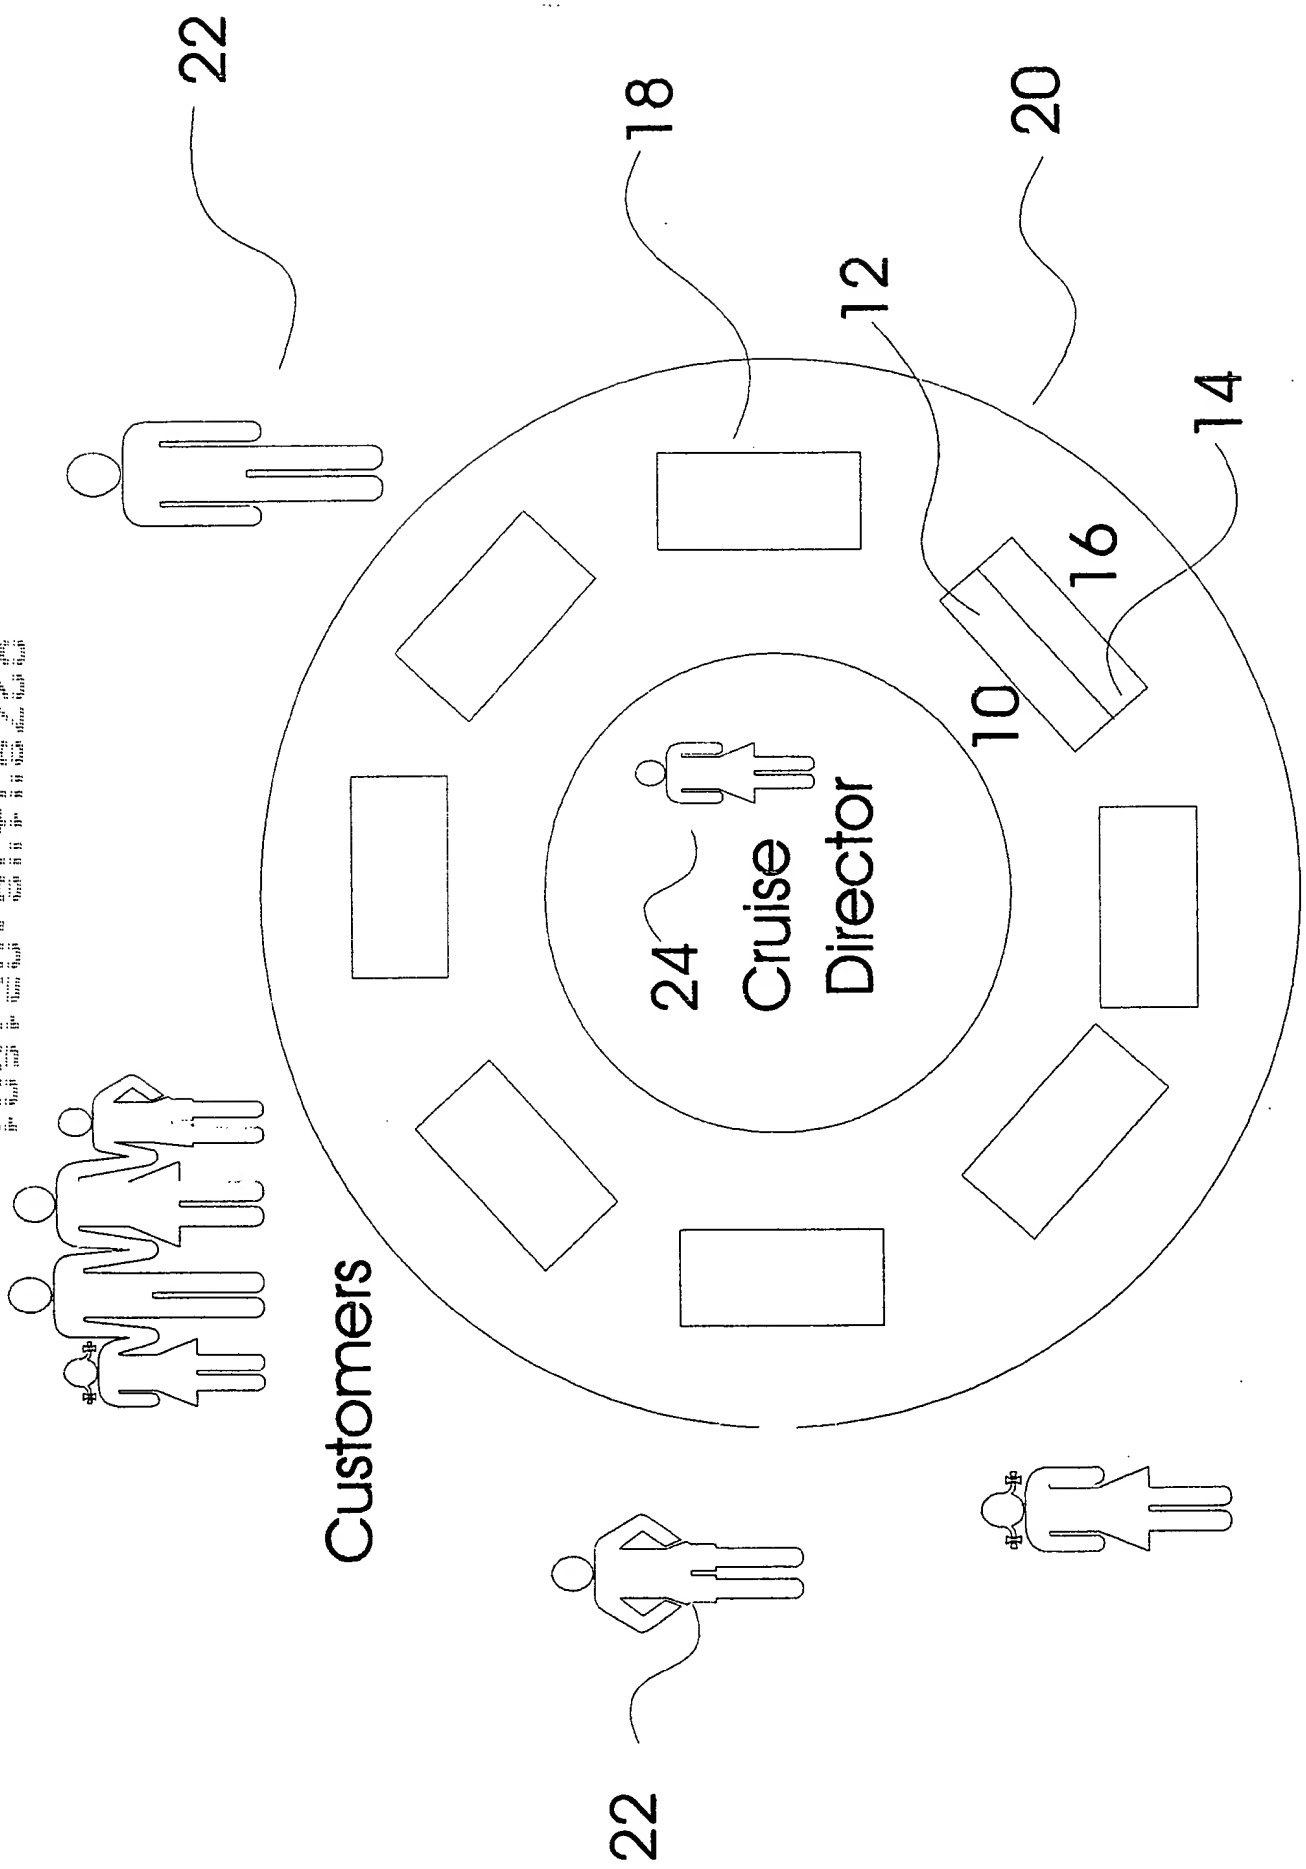

Fig. 3
FIG. 3 is a schematic diagram of a system for managing a cruise ship. The system includes a central Cruise Director (12) who is responsible for managing the ship's operations. The Cruise Director is connected to a network of servers (14) and databases (16) that store information about the ship's schedule, passengers, and crew. The system also includes a set of customer terminals (18) that allow passengers to interact with the system. The system is designed to provide a seamless and efficient experience for passengers throughout their cruise.